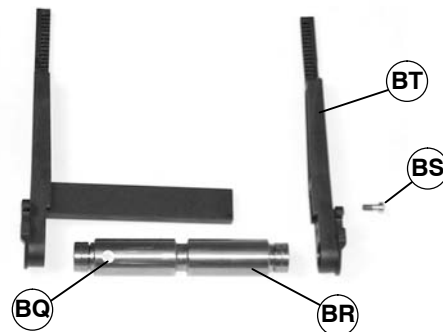

Figure 37
NOTE: Note which side of conveyor magnet (BQ of Figure 37) is located.
5. Locate magnet (BQ of Figure 37) on spindle and bearing assembly (BR).